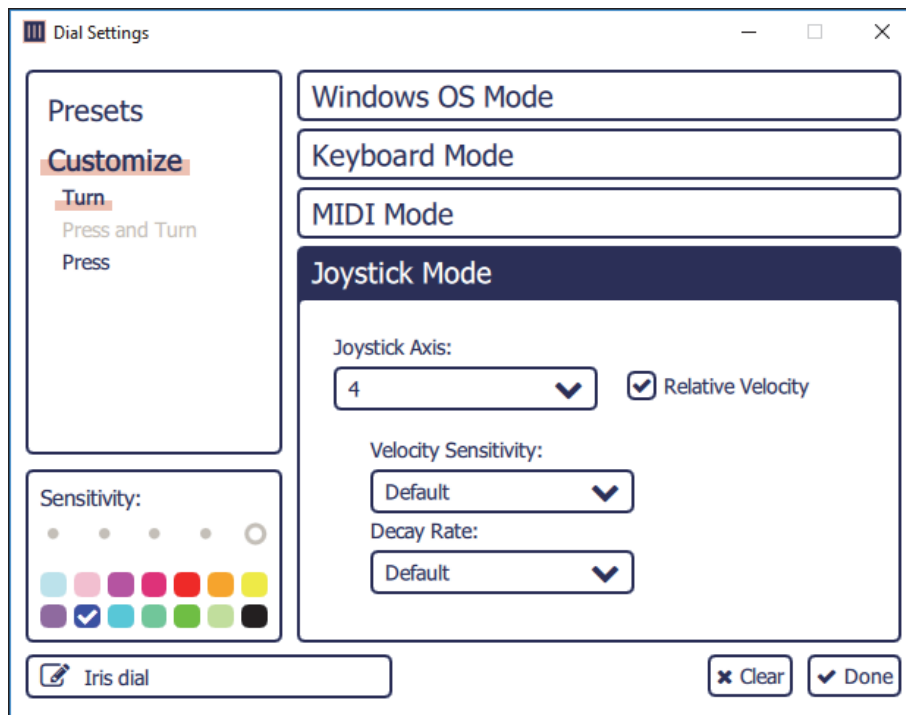

Figure 60 - Dial Settings Dialog Box
1. In Monogram Creator, click the dial control you want to edit. The **Dial Settings** dialog box appears (Figure 60).
The **Orbiter Settings** dialog box appears (Figure 60).